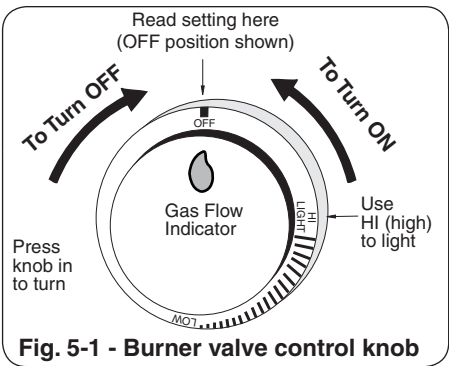

Fig. 5-1 - Burner valve control knob
**For your convenience and safety; when the control knob is in the ON position, the gas flow indicator will change from blue to red. (Red indicates gas flow.) See Fig. 5-1.**